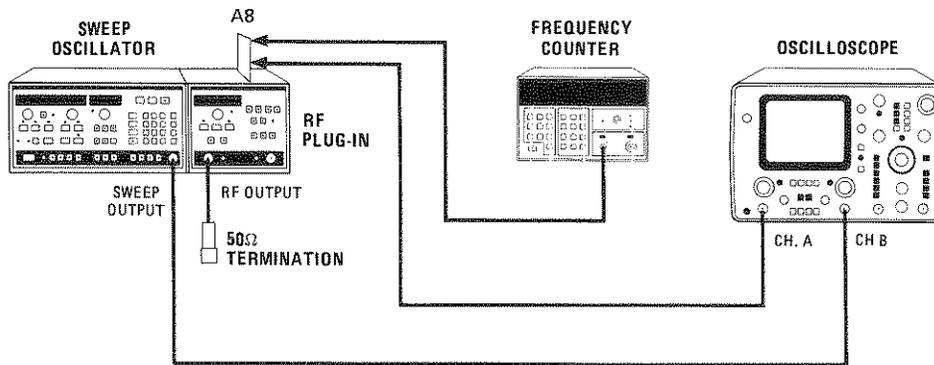

Figure 5-37. Marker Adjustments Test Setup
1. Place A8 assembly on extender board. Connect equipment as shown in Figure 5-37. Terminate 83525A RF output in 50 Ohms. Set 1740A Oscilloscope to A vs B sweep mode to obtain horizontal deflection as a function of the 8350A SWEEP OUT.